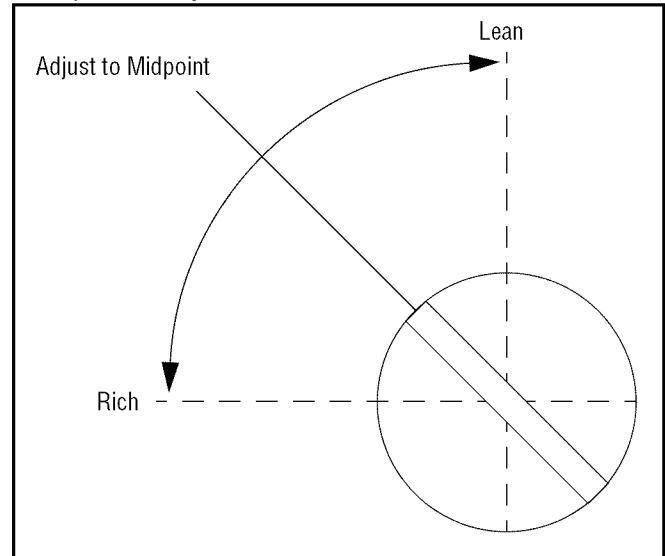

Figure 17
2. **Low Idle Fuel Screw Setting:** Place the throttle into the “idle” or “slow” position. Turn the low idle fuel mixture screw out (counterclockwise) from the preliminary setting until engine speed decreases (rich). Note the position of the screw. Now turn the mixture screw in (clockwise). The engine speed may increase, then it will decrease as the screw is turned in (lean). Note the position of the screw. Set the adjusting screw midway between the rich and lean settings. See Figure 17.